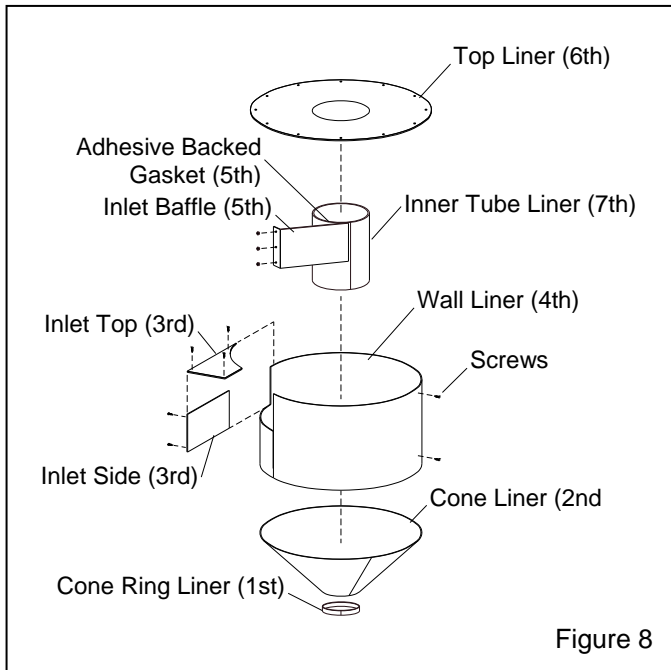

Figure 8
## 12.2 Replacing Rubber Reclaimer Liners, Figure 8
**Installation Note:** The numbers in parenthesis (-) shown in Figure 8 and the applicable paragraphs, show the recommended order of installation. When installing the liners, make sure that seams are aligned. The final assembly must be smooth and free of protrusions, edges, and gaps. Any edges will disrupt the air flow, causing wear, and affect the reclaimer's media cleaning efficiency.
**12.2.16** (7th) Place the tube liner over the inner tube, and use worm clamps to temporarily clamp the liner to the tube. Align it so the seam is on the backside of the baffle, as shown in Figure 8. Make sure the liner is tight against the top liner, then tack the liner to the bottom of the inner tube in three or four places. Remove the clamps when the tube liner is secured.